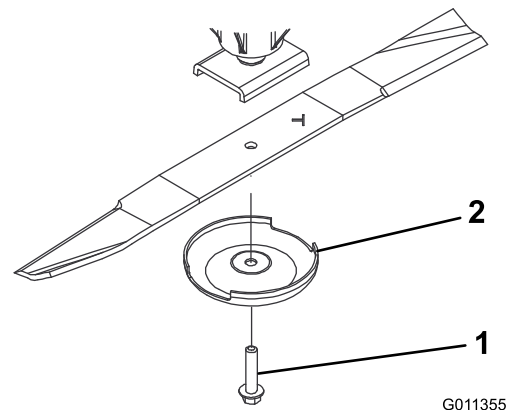

Figure 65
2. Grasp the end of the blade using a rag or thickly padded glove. Remove the blade bolt, anti-scalp cup, and blade from the spindle shaft (Figure 65).
3. Install the blade, sail facing toward the cutting deck, with the anti-scalp cup and blade bolt (Figure 65). Tighten the blade bolt to 115 to 149 N·m (85 to 110 ft-lb).
If the blade is allowed to wear, a slot will form between the sail and flat part of the blade (Figure 65). Eventually a piece of the blade may break off and be thrown from under the housing, possibly resulting in serious injury to yourself or bystanders.